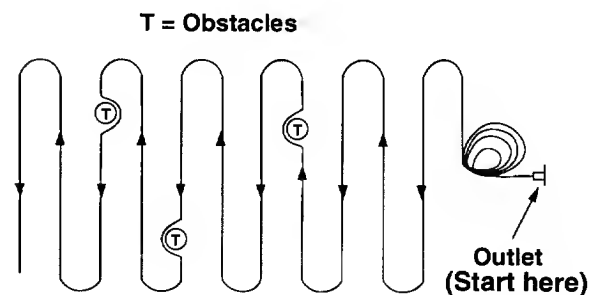

Figure 11 -- Mowing Pattern
- Always start from the **point closest to the power source** where the cord is connected. Never mow around the lawn in circles; travel back and forth across the lawn, starting from the point closest to the outlet and then moving away from the outlet so the cord lies in the cut portion of the lawn, out of the way. See figure 11.